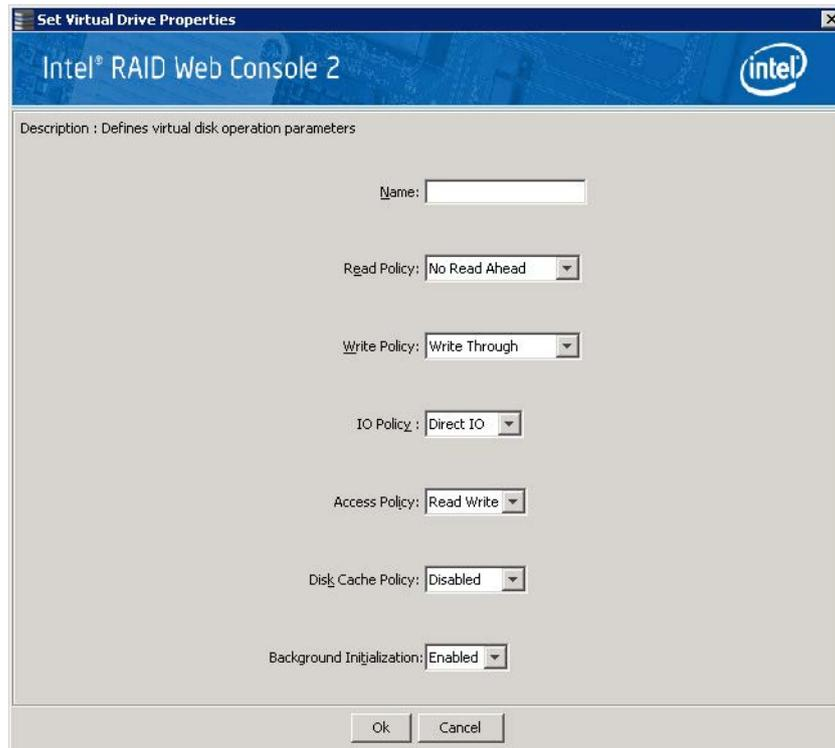

Figure 120. Set Virtual Disk Properties
1. Select a virtual disk (or drive) icon in the left panel and then select **Go To -> Virtual Drive -> Set Virtual Drive Properties**. Alternatively, click the **Properties** panel and then click **Set Virtual Disk Properties**. Figure 120 shows the Set Virtual Disk Properties screen.